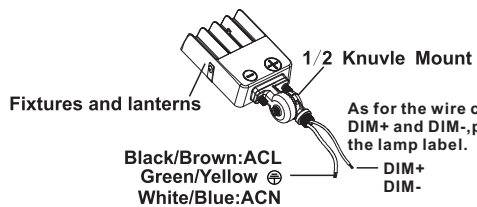
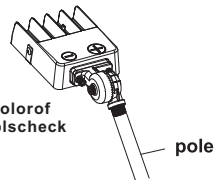

figure 1.3
figure 1.4
- Step 2: Make appropriate wiring (pay attention to positive wire, negative wire, and ground wire) (figure 1.3), and then pass the wires through the lamp pole;(figure 1.4)
Step 2: Make appropriate wiring (pay attention to positive wire, negative wire, and ground wire) (figure 1.3), and then pass the wires through the lamp pole;(figure 2.3)